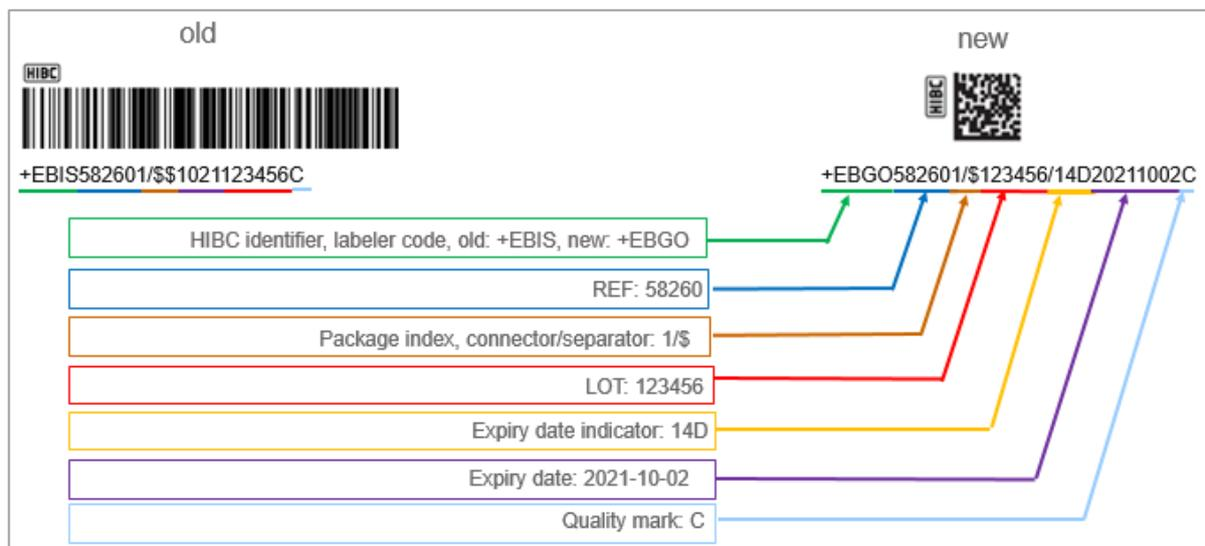

Fig. 3: Data contained in the code
- As a backup, in case digital scanning fails, all the data is also provided in text below the code (see Fig. 3)